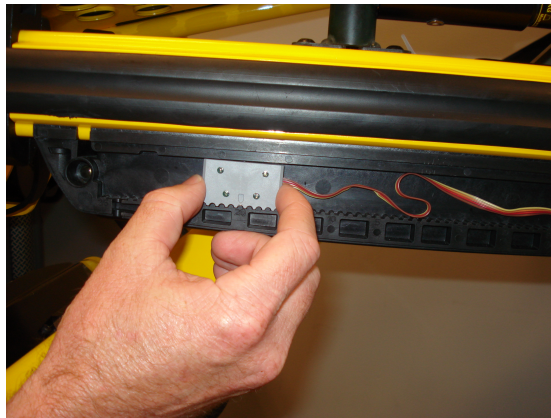

Figure 12 – Adjust left sensor height
3. Adjust the left height sensor only inside the sensor housing: (Figure 12):